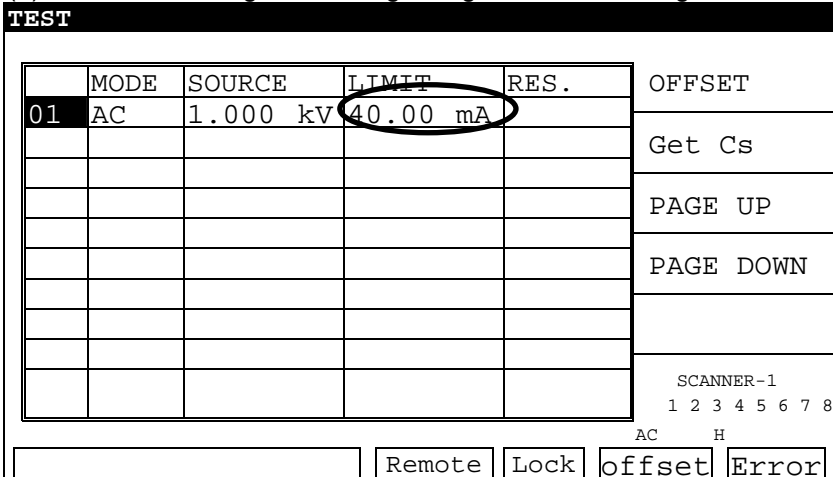

Figure 4-4
- (1) Auto Range function sets as ON.
- (2) The current range sets to high range i.e. 40mA as Figure 4-4 shown.